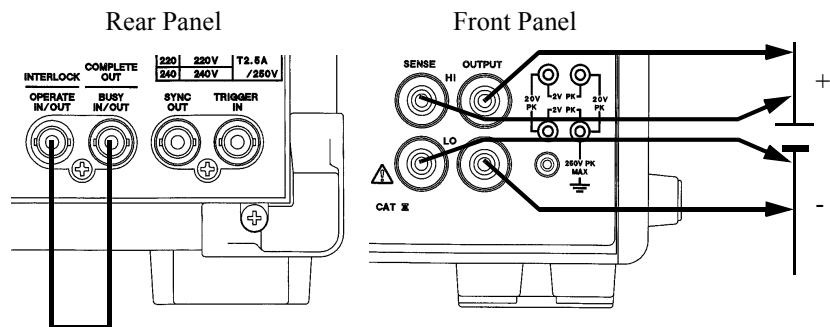

Figure 2-12 Connections for Battery Charge and Discharge Test
8. Connect the leads using 4-wire as shown in Figure 2-12 to eliminate voltage drop caused by the leads.